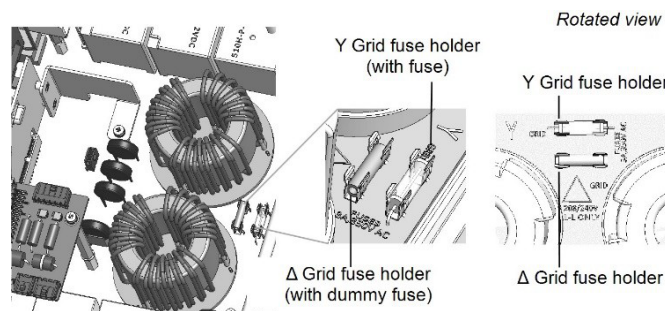

Figure 2: Fuse locations and markings
To set the inverter for 3-wire grid connection, you must move the fuse from the 4-wire fuse holder, marked as Y GRID, to the 3-wire fuse holder, marked as Δ GRID (see Figure 2).
2. Identify the fuse locations and the markings as described in Figure 2.